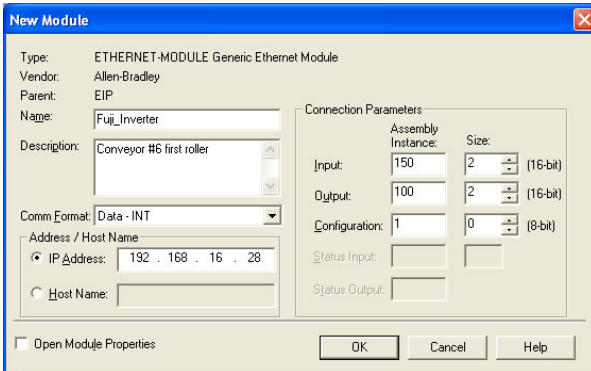

Figure 85: Interface Card Module Properties
- 4) The module properties dialog box will open (refer to Figure 85). Enter a Name and Description which will allow easy identification of the inverter on the network (the tags created in RSLogix 5000 will be derived from this Name). Because all inverter data is stored as 16-bit registers, change the “Comm Format” selection to “Data-INT”. Enter the IP address of the targeted interface card.